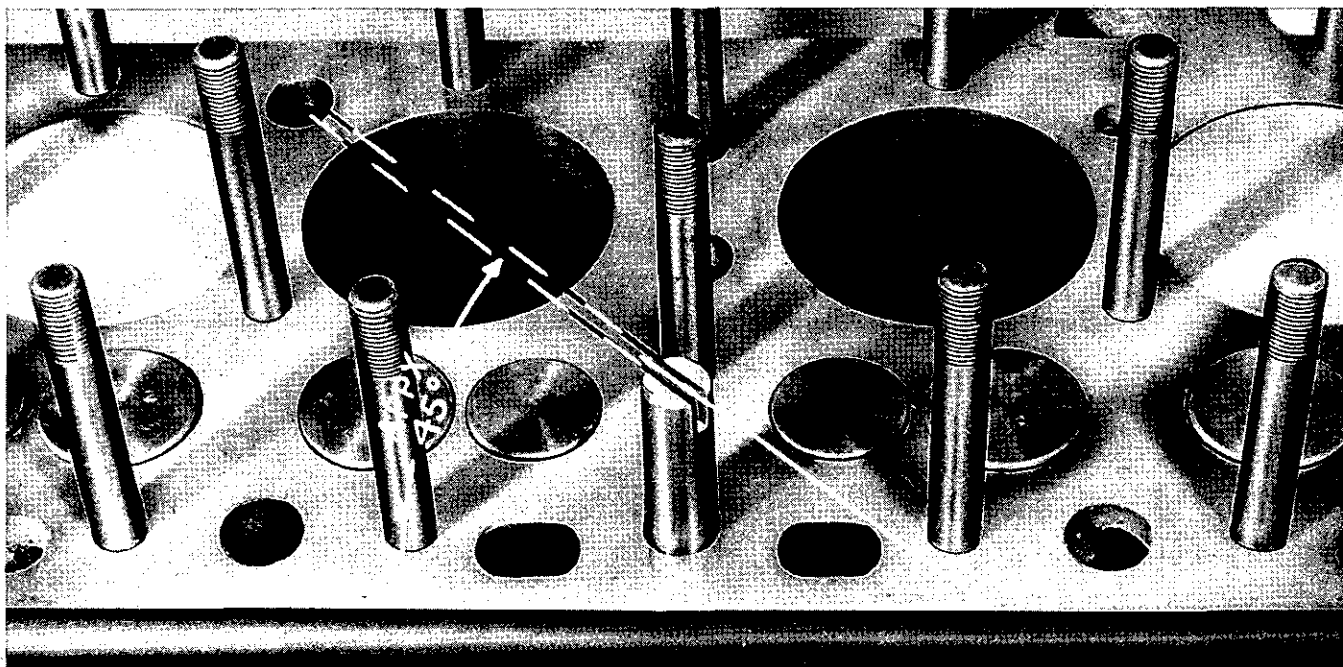

Fig. 25. Position of offset and slot in distributor and oil pump shaft with No. 1 cylinder at firing point.
2. Ensure that the slot and offset in the upper end of the drive shaft is as indicated in Fig. 25. Re-engaging helicals as necessary to obtain this position.